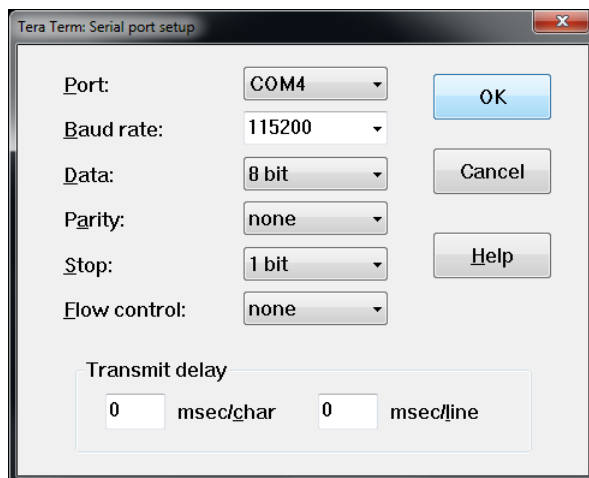

Figure 4. Tera Term Serial Port Settings
5. Configure the settings as per Figure 4.